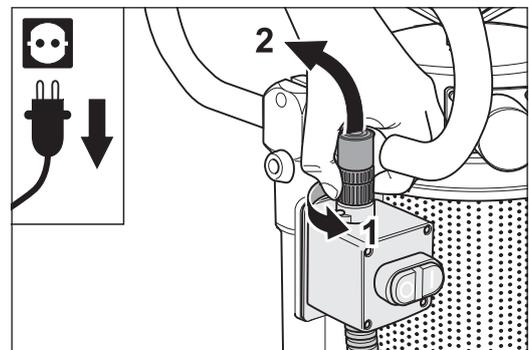

Fig. 51 Loosen the ring nut (1) and remove the cable plug from the switch (2).
- 2** Loosen the cable plug of the sensor on the on/off switch by turning the ring nut **counterclockwise** (fig. 51, 1) and pull the cable plug off (fig. 51, 2).